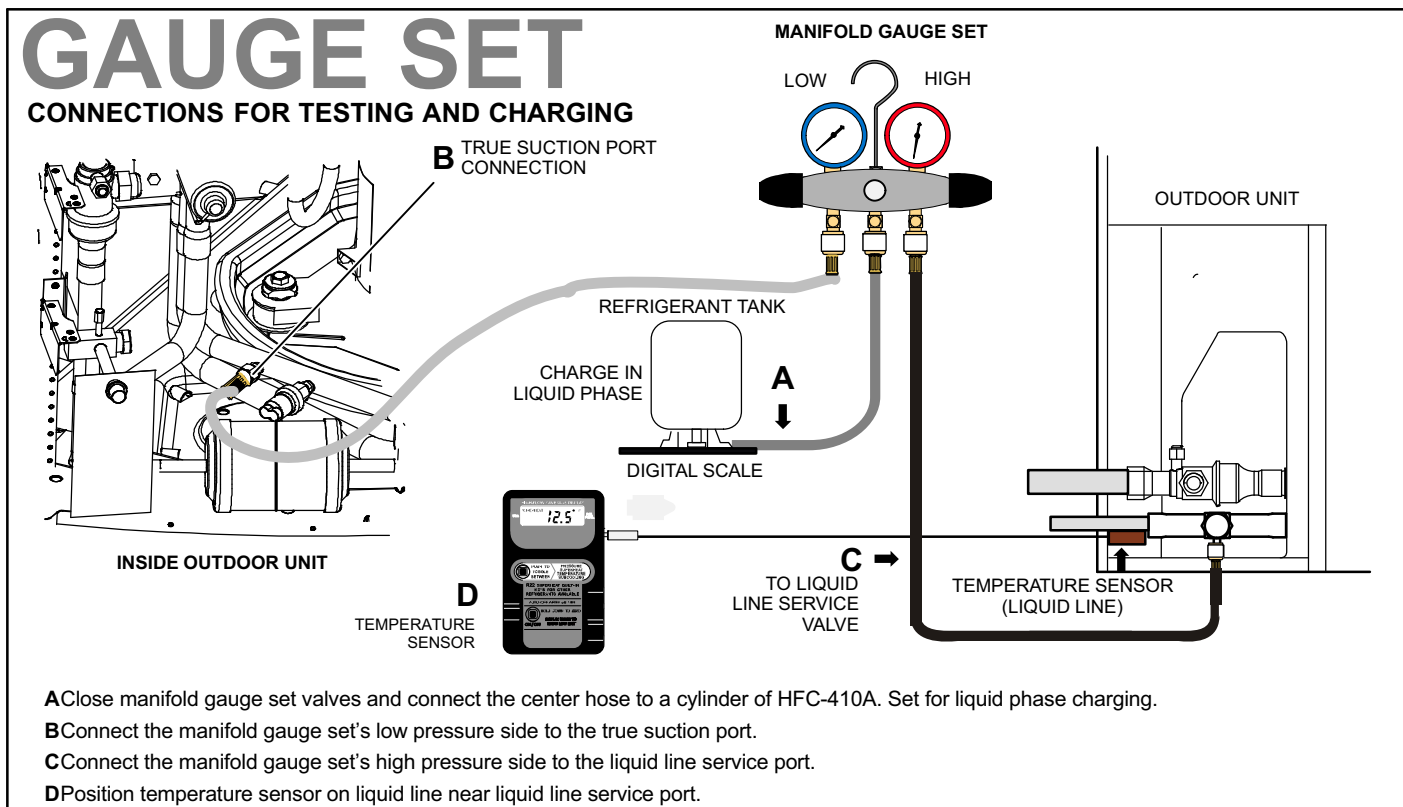

Figure 19. Gauge Set Connections
1. Connecting gauge set for testing and charging as illustrated in figure 19.